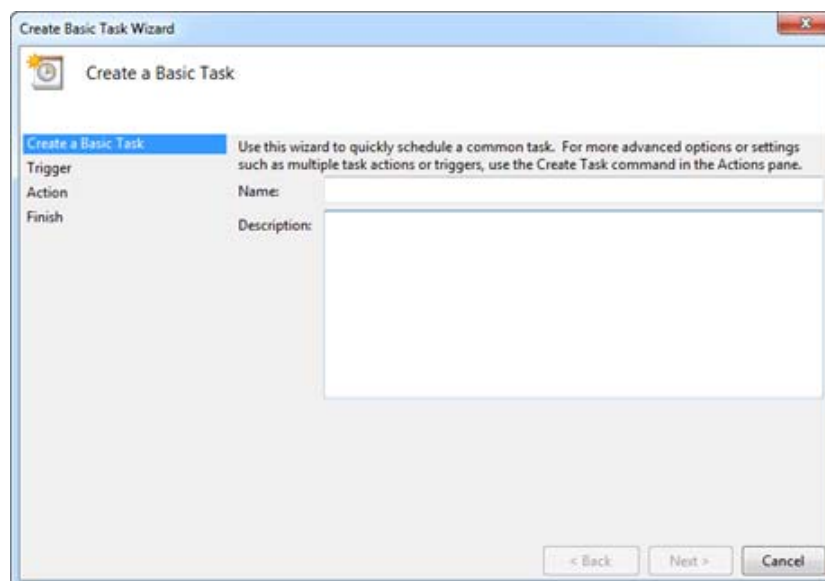

Figure 65. Create Basic Task Window
- 2 Click **Create Basic Task** on the Actions panel on the right side of the Task Scheduler window. The **Create Basic Task Wizard** window opens. See Figure 65.